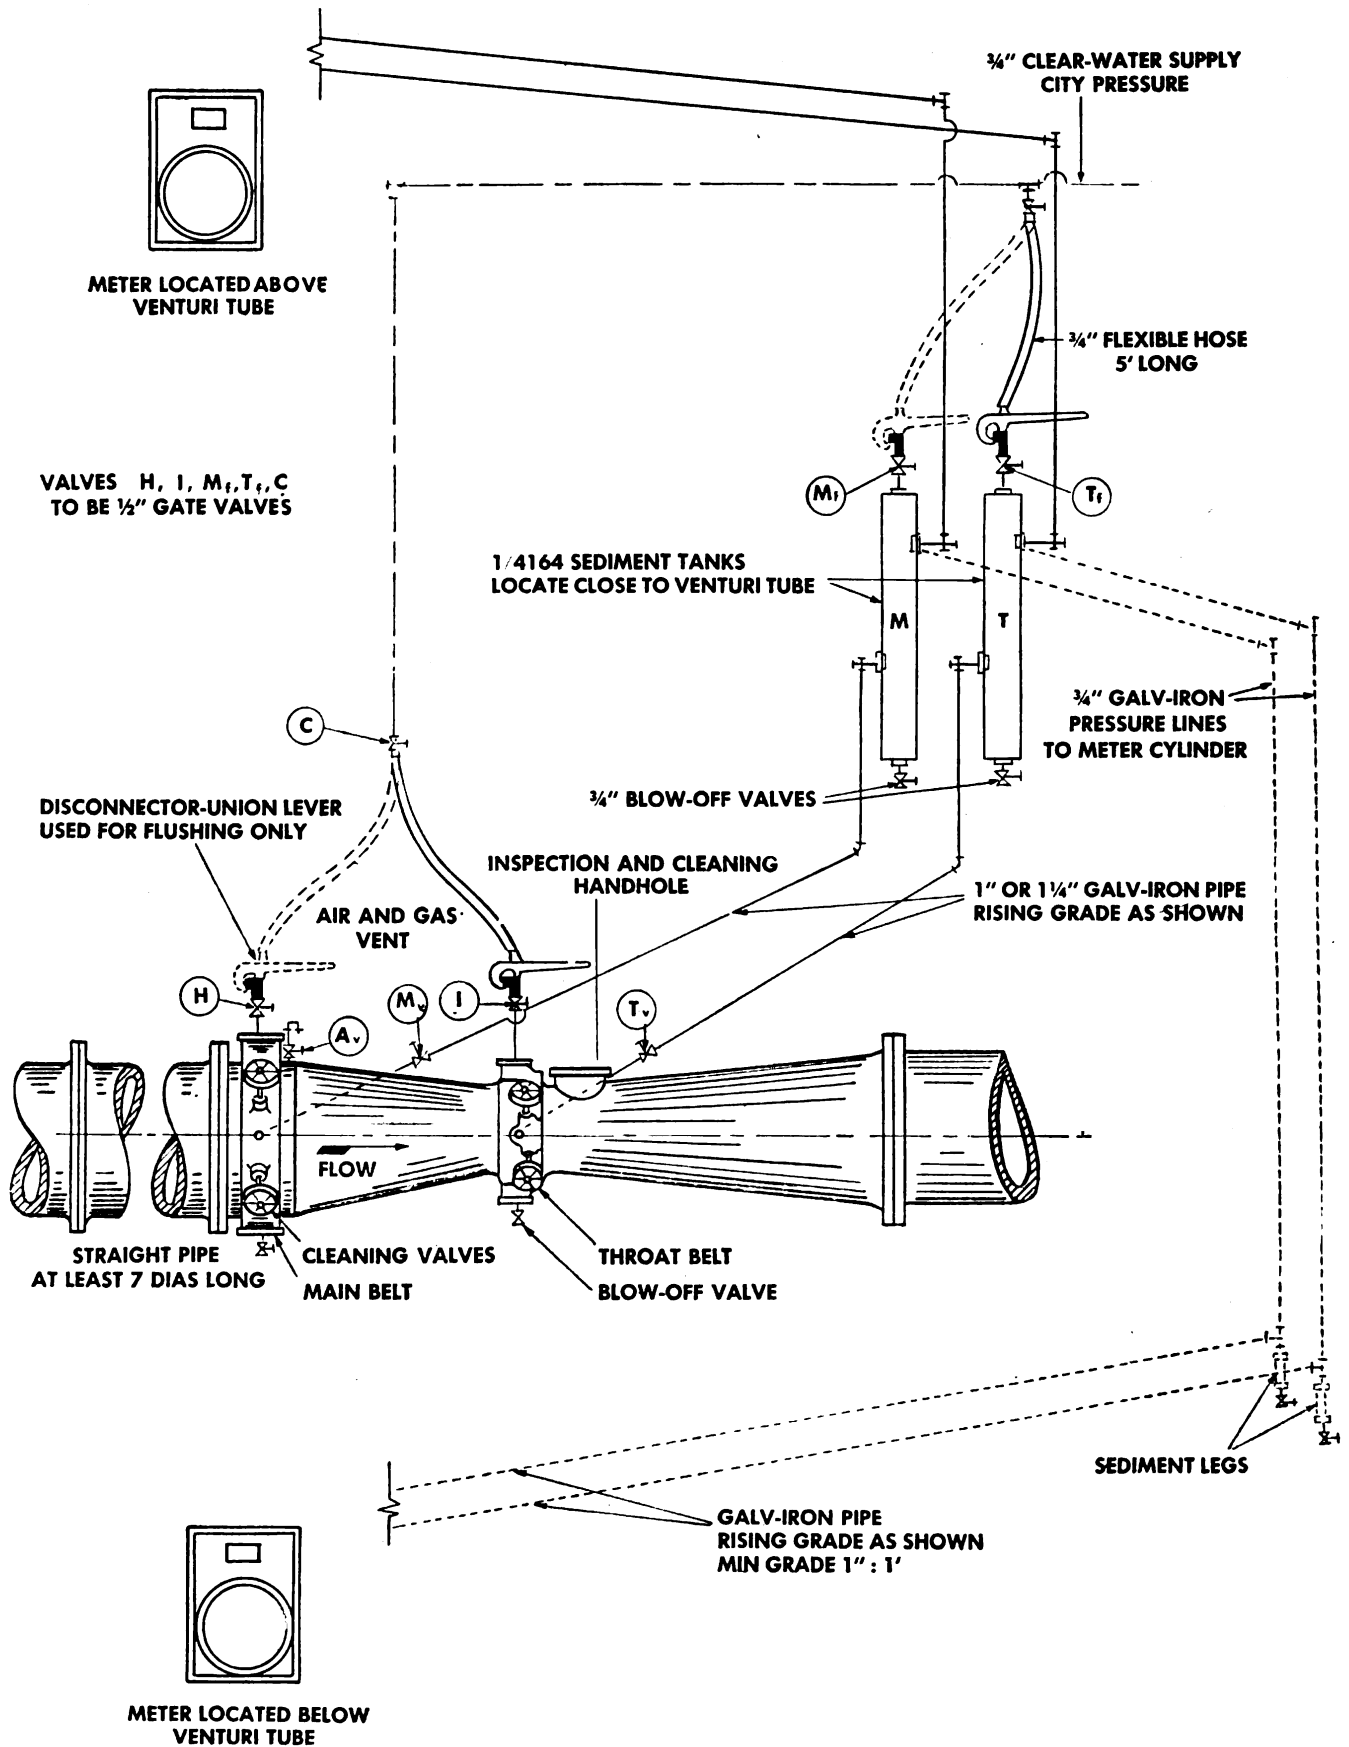

Figure 62. Simplex type-S meter installation.
(2) *Check for causes of unsatisfactory operation.* (See fig. 62.)